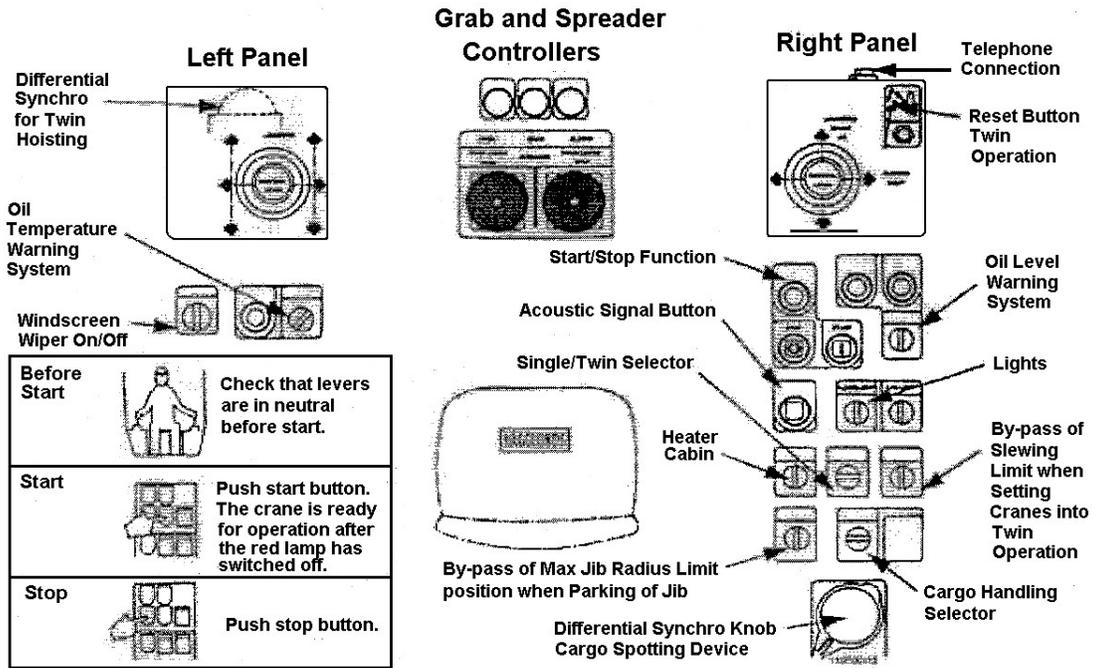

Figure 3-142
2. Direct set-up procedures for single mode operations (see Figure 3-142).